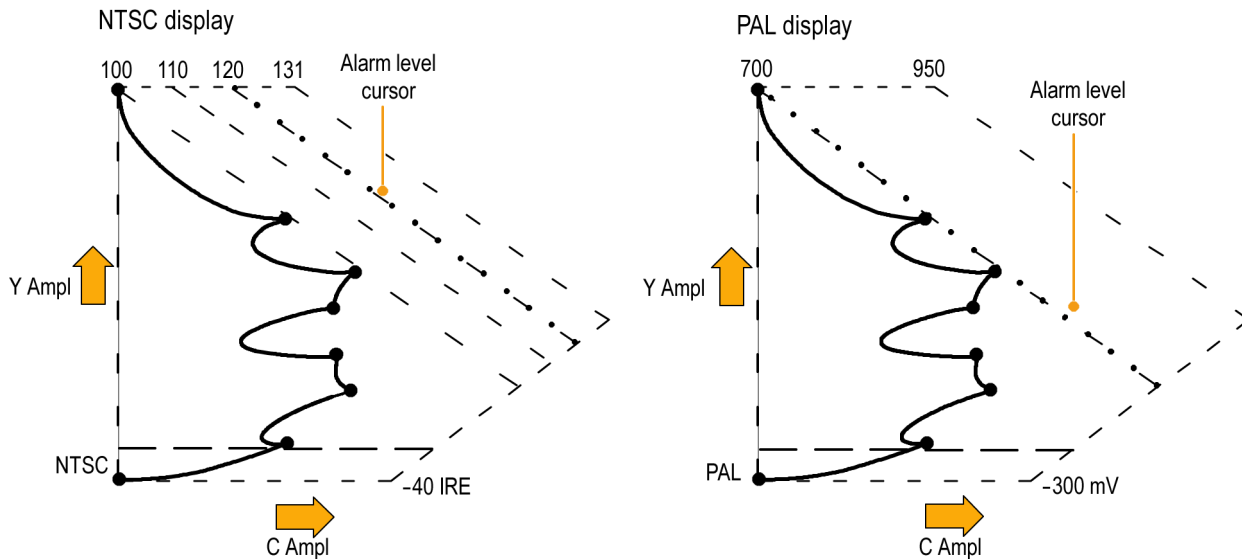

Figure 43: Arrowhead gamut display plots
The Arrowhead gamut display plots luminance (Y) against chrominance (C) to check if the composite signal adheres to standard gamut. NTSC and PAL Arrowhead displays (75% Color bars) and indicates the values of the graticule lines. The arrowhead shape of the graticule results from overlaying the standard limits for luminance and luminance-plus-peak chrominance. (See Figure 43.)